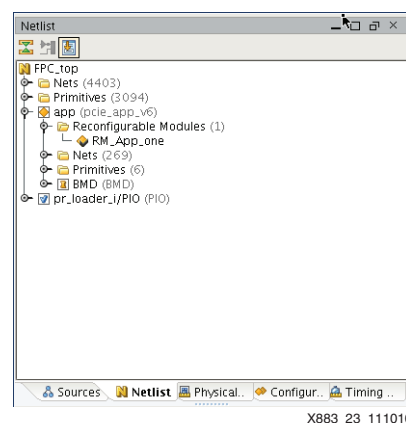

Figure 23: Adding Reconfigurable Modules
7. The icon for `app` in the Netlist frame changes to an orange diamond in a white box, indicating that the reconfigurable module netlist has been added to the project. The orange diamond indicates that it is a reconfigurable partition. The partial reconfiguration project now has one reconfigurable module and one elaborated netlist, as shown in Figure 23.